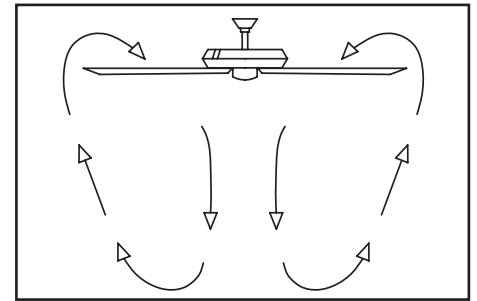

Figure 24
**Warm weather - (Forward)** A downward air flow creates a cooling effect as shown in Figure 24. This allows you to set your air conditioner on a higher setting without affecting your comfort.